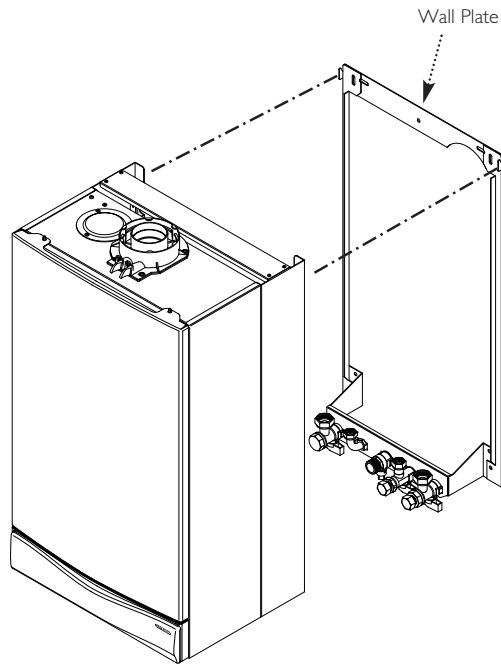

Fig. 32
2. Lift the boiler using the lower edges. Engage the slots at the top rear of the boiler on the wall plate (Fig. 32).